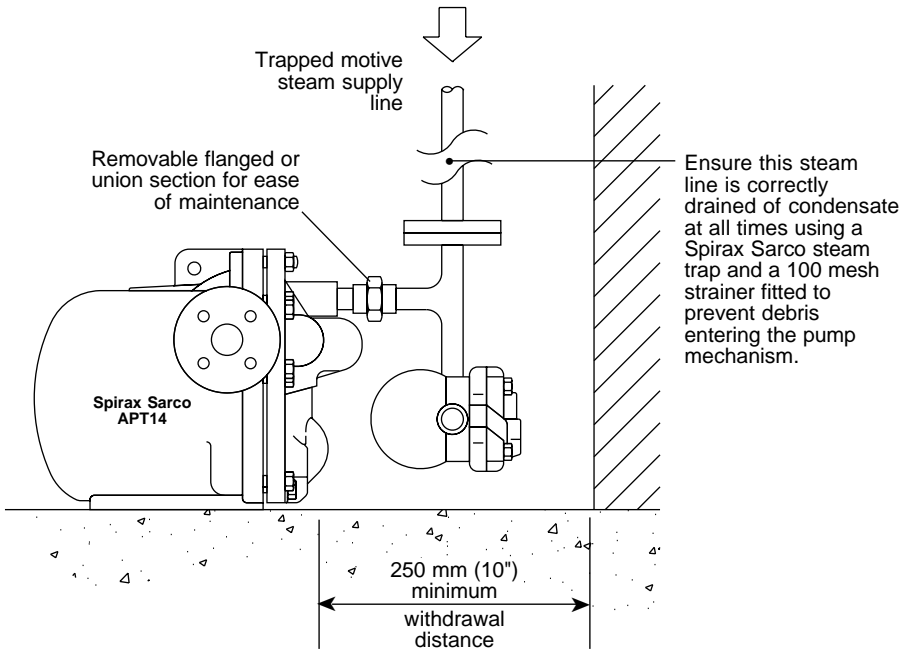

Fig. 10 Suggested coupling of motive supply and exhaust lines.
3.3 Connections (refer to installation diagram Fig. 10 opposite)
4.1 After ensuring the inlet and outlet pipe connections and motive/exhaust connections are coupled in accordance with Fig.10 / 11, slowly open the motive steam inlet line to supply pressure to the APT14. Ensure the exhaust /balance line is open and not restricted in any way.